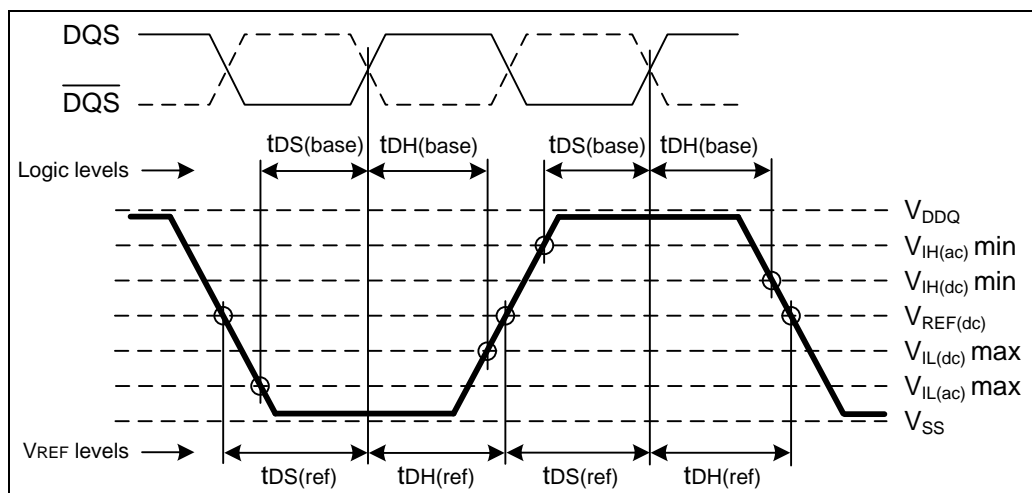

Figure 19 – Differential input waveform timing – tDS and tDH
16. Input waveform timing  $t_{DS}$  with differential data strobe enabled  $MR[\text{bit}10]=0$ . There are two sets of values listed for  $\overline{DQ}$  and  $\overline{DM}$  input setup time:  $t_{DS}(\text{base})$  and  $t_{DS}(\text{ref})$ . The  $t_{DS}(\text{ref})$  value (for reference only) is equivalent to the baseline value  $t_{DS}(\text{base})$  at  $V_{REF}$  when the slew rate is 2.0 V/nS, differentially. The baseline value  $t_{DS}(\text{base})$  is the JEDEC defined value, referenced from the input signal crossing at the  $V_{IH}(\text{ac})$  level to the differential data strobe crosspoint for a rising signal, and from the input signal crossing at the  $V_{IL}(\text{ac})$  level to the differential data strobe crosspoint for a falling signal applied to the device under test.  $\overline{DQS}$ ,  $\overline{DQS}$  signals must be monotonic between  $V_{IL}(\text{dc})_{\text{max}}$  and  $V_{IH}(\text{dc})_{\text{min}}$ . See Figure 19. If the differential  $\overline{DQS}$  slew rate is not equal to 2.0 V/nS, then the baseline values must be derated by adding the values from table of DDR2-667, DDR2-800 and DDR2-1066  $t_{DS}/t_{DH}$  derating with differential data strobe (page 60).
17. Input waveform timing  $t_{DH}$  with differential data strobe enabled  $MR[\text{bit}10]=0$ . There are two sets of values listed for  $\overline{DQ}$  and  $\overline{DM}$  input hold time:  $t_{DH}(\text{base})$  and  $t_{DH}(\text{ref})$ . The  $t_{DH}(\text{ref})$  value (for reference only) is equivalent to the baseline value  $t_{DH}(\text{base})$  at  $V_{REF}$  when the slew rate is 2.0 V/nS, differentially. The baseline value  $t_{DH}(\text{base})$  is the JEDEC defined value, referenced from the differential data strobe crosspoint to the input signal crossing at the  $V_{IH}(\text{dc})$  level for a falling signal and from the differential data strobe crosspoint to the input signal crossing at the  $V_{IL}(\text{dc})$  level for a rising signal applied to the device under test.  $\overline{DQS}$ ,  $\overline{DQS}$  signals must be monotonic between  $V_{IL}(\text{dc})_{\text{max}}$  and  $V_{IH}(\text{dc})_{\text{min}}$ . See Figure 19. If the differential  $\overline{DQS}$  slew rate is not equal to 2.0 V/nS, then the baseline values must be derated by adding the values from table of DDR2-667, DDR2-800 and DDR2-1066  $t_{DS}/t_{DH}$  derating with differential data strobe (page 60).